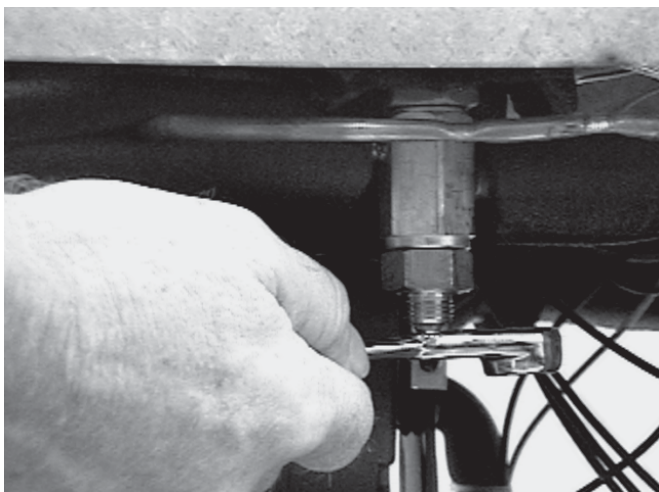

Figure 16. TXV
- Remove the cap on the TXV and using a service wrench, turn the valve stem 1/4 (90°) turn counter clockwise for more cooling or clockwise for less cooling. Figure 16.